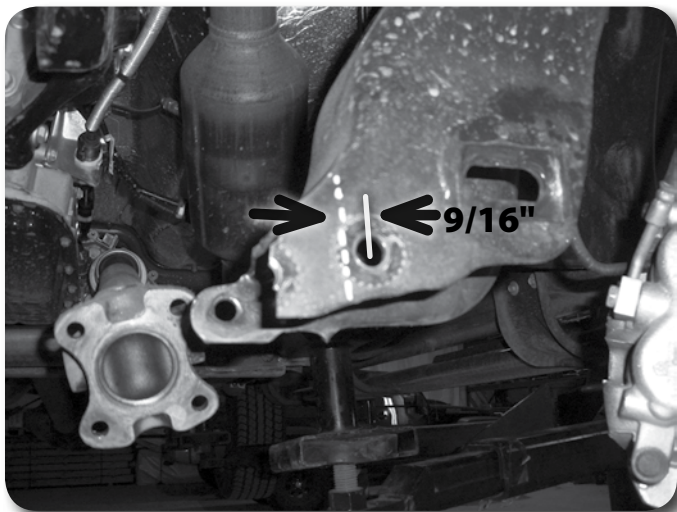

Figure. 11
30. The driver's side rear lower control arm pocket must be trimmed to provide clearance for the differential in its lowered position. Measure inward from the center of the outer crossmember mounting hole $9/16"$ and mark. Repeat on the opposite side of the pocket. Make a continuous line connecting the two marks over the top edge of the pocket. Trim the pocket on the line with a saw-zall or cut off wheel. Paint any exposed metal to prevent corrosion **Figure 11 / 12.**